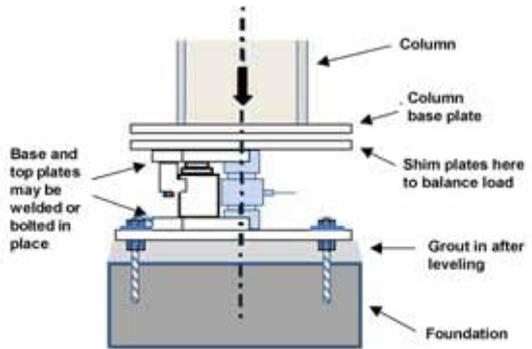

FIG. 7: THE CENTER POINT OF THE UPPER LOAD CUP SHOULD BE CENTERED ON THE LOAD CARRIER FOOT PLATE
Arrow on drawing (See Fig. 7) notes the Center Point. This Center Point is the upper load cup and should be centered on the load carrier foot plate.
1. Use shimming only if the load carrier is so stiff that fine adjustment is necessary to obtain the correct load distribution between corners. (See Figs. 7 and 8)
- Step 8. Tighten the upper clamp hex bolt the lift off protection bolts. Be sure to leave at least a 2 mm gap between the lift off protection plate and the bumper. (See Fig. 7)